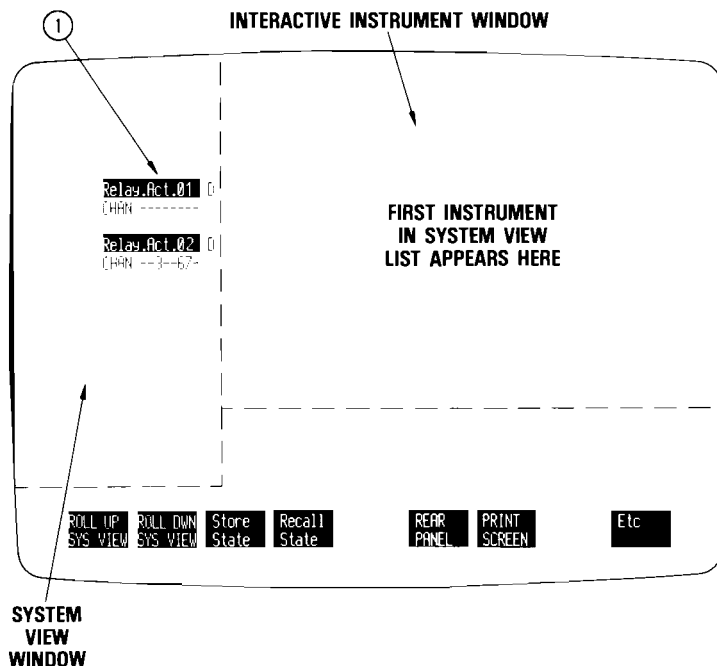

Figure 2-1. Select the Instrument
Step 1 - If your Relay Actuator is not already in the Interactive Instrument Window, point to and select RELAY.ACT.01 from the label(s) listed in the System View window (see Figure 2-1). If you have many instruments connected to the interface, use the **ROLL UP SYS VIEW** softkey to view them all. When you select an instrument from the list, the ACTIVE indicator (located on the front of the instrument) lights up.
As shown in Figure 2-1, RELAY.ACT.01 is the factory default label for the Relay Actuator. If you have more than one Relay Actuator, each additional instrument is assigned a sequentially numbered default label (RELAY.ACT.02, RELAY.ACT.03, etc). The letter D after the label indicates that all channels are open (disabled) at this time. If the D